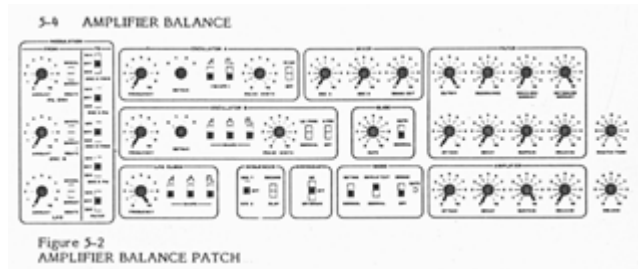

Fig 5-2
1. Patch according to Figure 5-2.